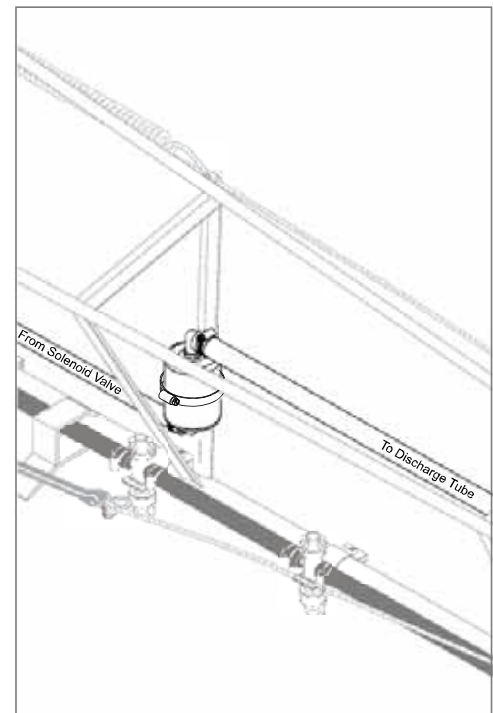

Figure 4.5:
1. The foam mixing chambers should be mounted in a vertical position and can be secured with the four large hose clamps included in the kit. See figure 4.5 on page 5. They should be located behind the sprayer or somewhere on the inner boom wing. The distance from each mixing chamber to each discharge tube must not exceed 25'. It is best to locate the mixing chambers where most of the 3/4" hose can be used. This keeps the 1/2" hose shorter and results in better performance of the marker.